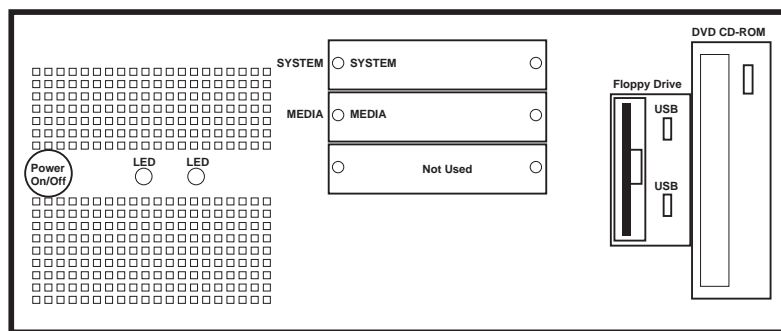

Figure 3-1: Front Panel of Deko3000 Workstation (front Bezel removed)
2. **Insert the System hard drive and Media hard drive into their respective drive bays on the front panel of the Deko3000 workstation. Refer to Figure 3-1.**